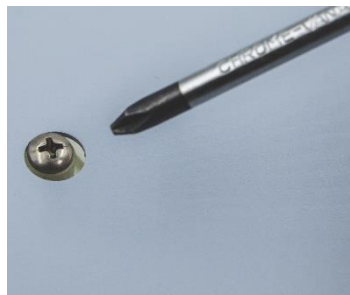

Figure 19: Air vent screw
6. Using a Philips head screw driver, open the vent screw, located below the water ports. Unscrew 3 turns counter-clockwise. (see figure 19)